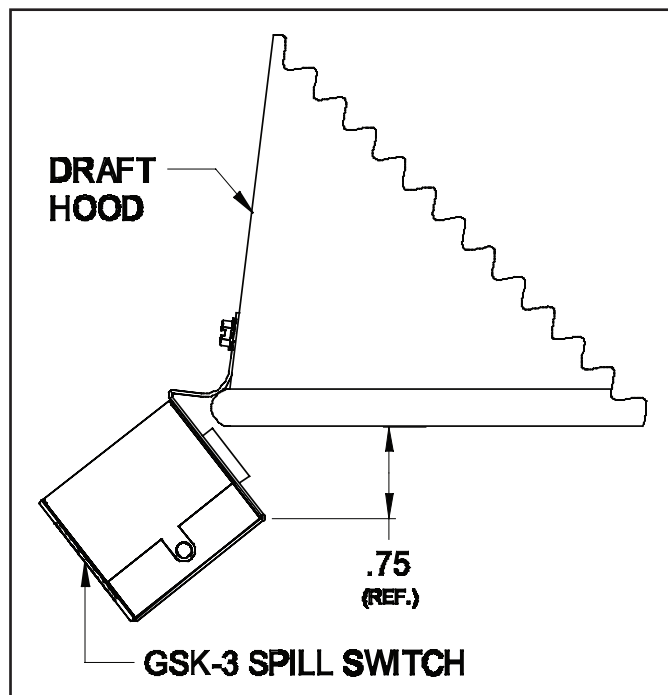

Figure 6
2. The switch should not contact the metal. They should be mounted at least 3/4" below the hood opening. (See Figure 6) Mount with supplied sheet metal screw.